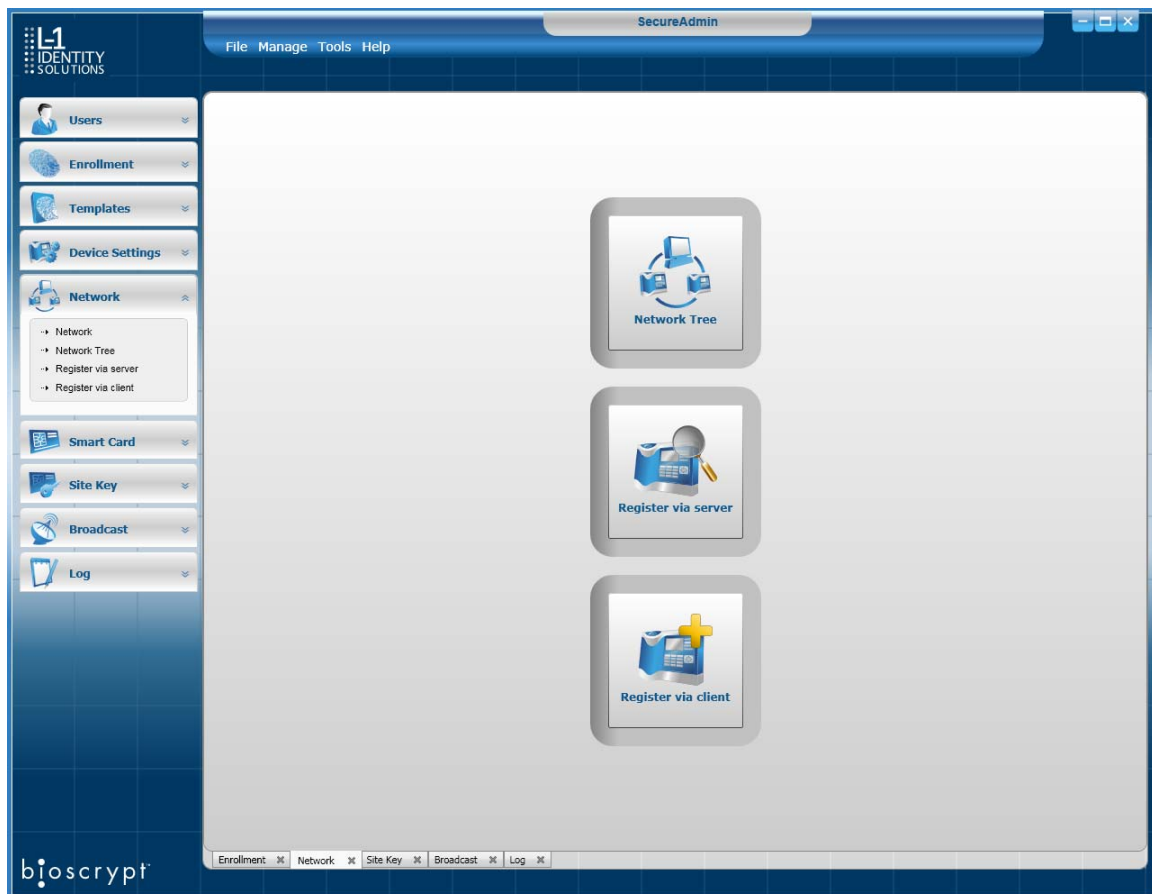

Figure 6-1: Network Sidebar Tab
2. Double-click the **Network** tab. Three buttons are displayed (see Figure 6-1).